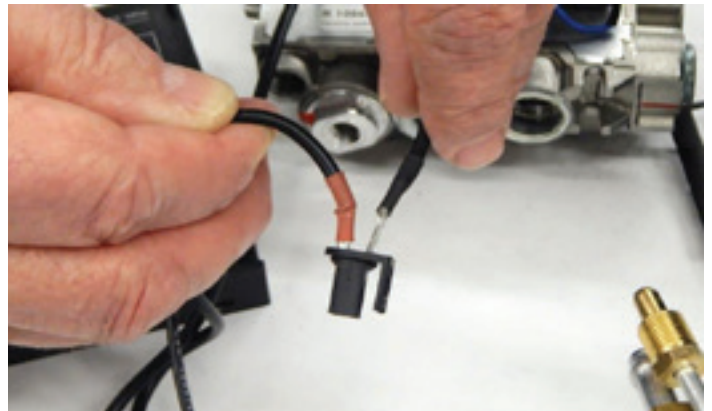

Figure 15
16. The rocker switch in the valve has two wires connected to it. One of the wires runs to the plastic housing removed from the interrupter in Step 10. Remove this wire by pulling it out of the housing. **See Figure 15.**